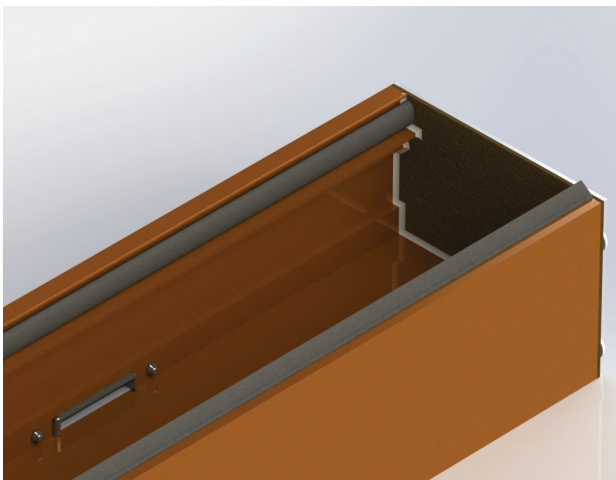

Fig. 4
- B. Apply self-leveling sealant to the inside edge between the sub-sill and the end dam covering all edges. (Fig. 4)